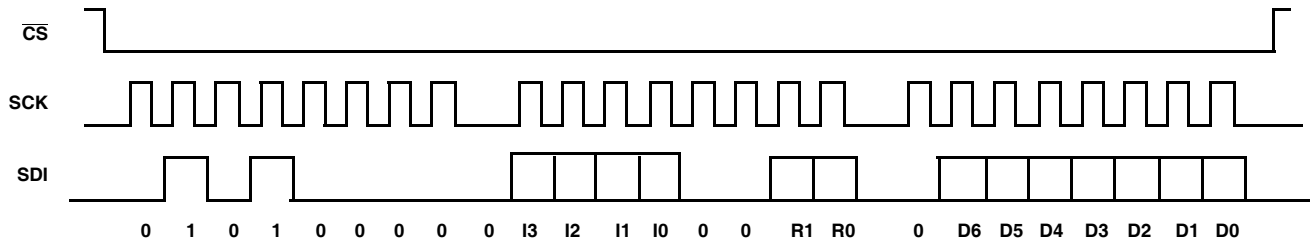

FIGURE 12. THREE BYTE WRITE SEQUENCE
A Write operation to the ISL22419 is a three-byte operation. It requires first, the \overline{CS} transition from HIGH to LOW, then a valid Identification Byte, then a valid instruction byte followed by Data Byte is sent to SDI pin. The host terminates the write operation by pulling the \overline{CS} pin from LOW to HIGH. For a write to address 0 (WR), the byte at address 2 (ACR[7]) determines if the Data Byte is to be written to volatile or both volatile and non-volatile registers. Refer to "Memory Description" on page 9 and Figure 12.